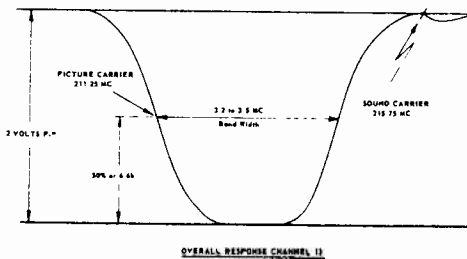

Figure 7 - Overall Response Curve
11. By adjusting L103 on the tuner for maximum amplitude of the response curve and the bottom adjustment of Z300 to correct the tilt, the curve and marker points should be as shown in Fig. 7.
The top adjustment of Z300 is the accompanying sound trap (41.25 mc) and should be adjusted to fall as shown in the response curve (Fig. 7) at 215.75 mc. After adjusting the 41.25 mc. trap it may be necessary to retouch the bottom adjustment of Z300.